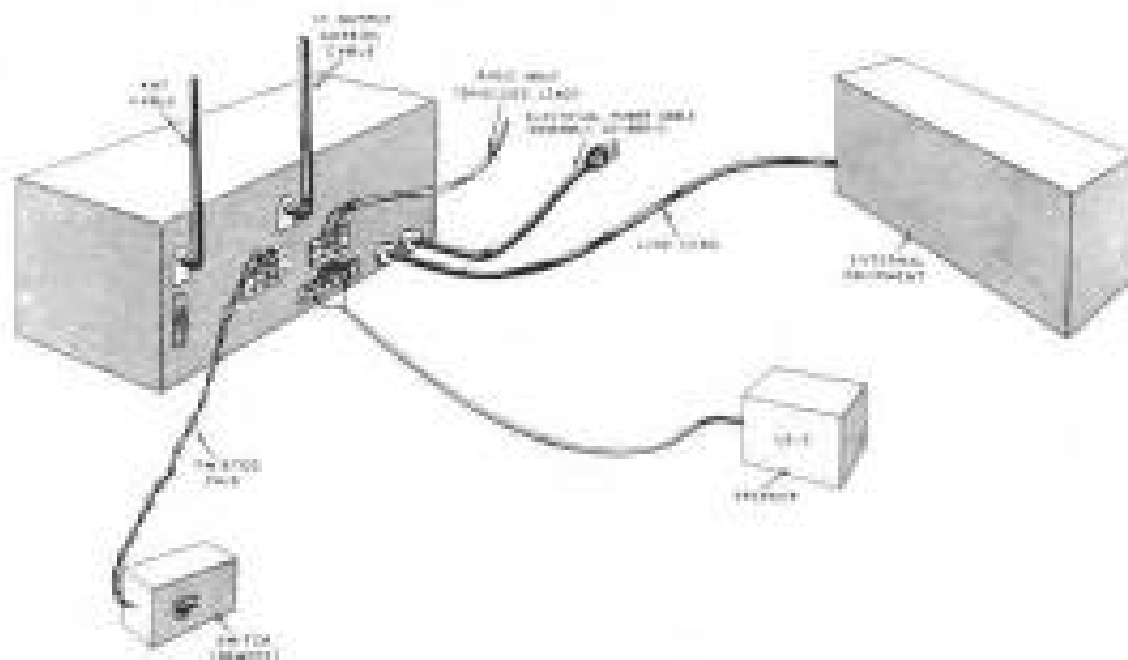

Fig. 2. Connections for Operating
SPEAKER - Connect the speaker, if used, to the AUDIO OUTPUT terminal strip (B4) on the rear of the chassis (Fig. 2). The audio output is designed to match either a 150- or 500-ohm load by connecting the secondary windings of the auto-coupled transformer, T35, in series or just using one of the secondary windings. Normally, when matching a speaker to a line, the 500-ohm output is preferred. In this case the secondary may be connected in series by connecting a jumper wire across terminals 3 and 4 on the AUDIO OUTPUT terminal strip (B4). If a speaker of the permanent magnet type is used with a low-impedance voice coil (5 to 30 ohms), a matching transformer should be used between the receiver audio output and the speaker. A bracket may be plugged into the PHONO jack (D) on the front panel. The headphone output is designed to accommodate various impedances that headphones usually require. Bell-type equipment or connected through an RF Cable Assembly (not supplied) jack (E) on the top rear of the chassis. Connect a 500-ohm 2-watt load resistor across terminals 1 and 3 of the AUDIO OUTPUT strip (B4) if no external equipment is to be connected to this output, and place a jumper wire across terminals 3 and 4.
REMOTE STANDBY SWITCH - To provide a remote connection for a stand-by switch the connecting wires must be connected to the REMOTE/NOG. terminal strip (C) on the rear of the chassis (Fig. 2). To make connections to this terminal strip, the terminal strip cover must be removed by taking out the two retaining screws.